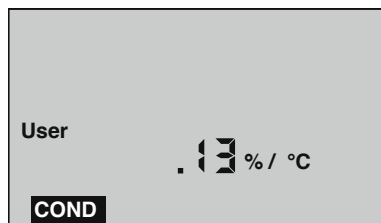

Figure 2
- b. With User mode now selected, press $\frac{\text{CAL}}{\text{MCLR}}$. You may now adjust a temperature compensation from .00%/°C to 9.99%/°C, by pressing $\frac{\blacktriangle}{\text{MS}}$ or $\frac{\text{MR}}{\blacktriangledown}$. See example in Figure 2.